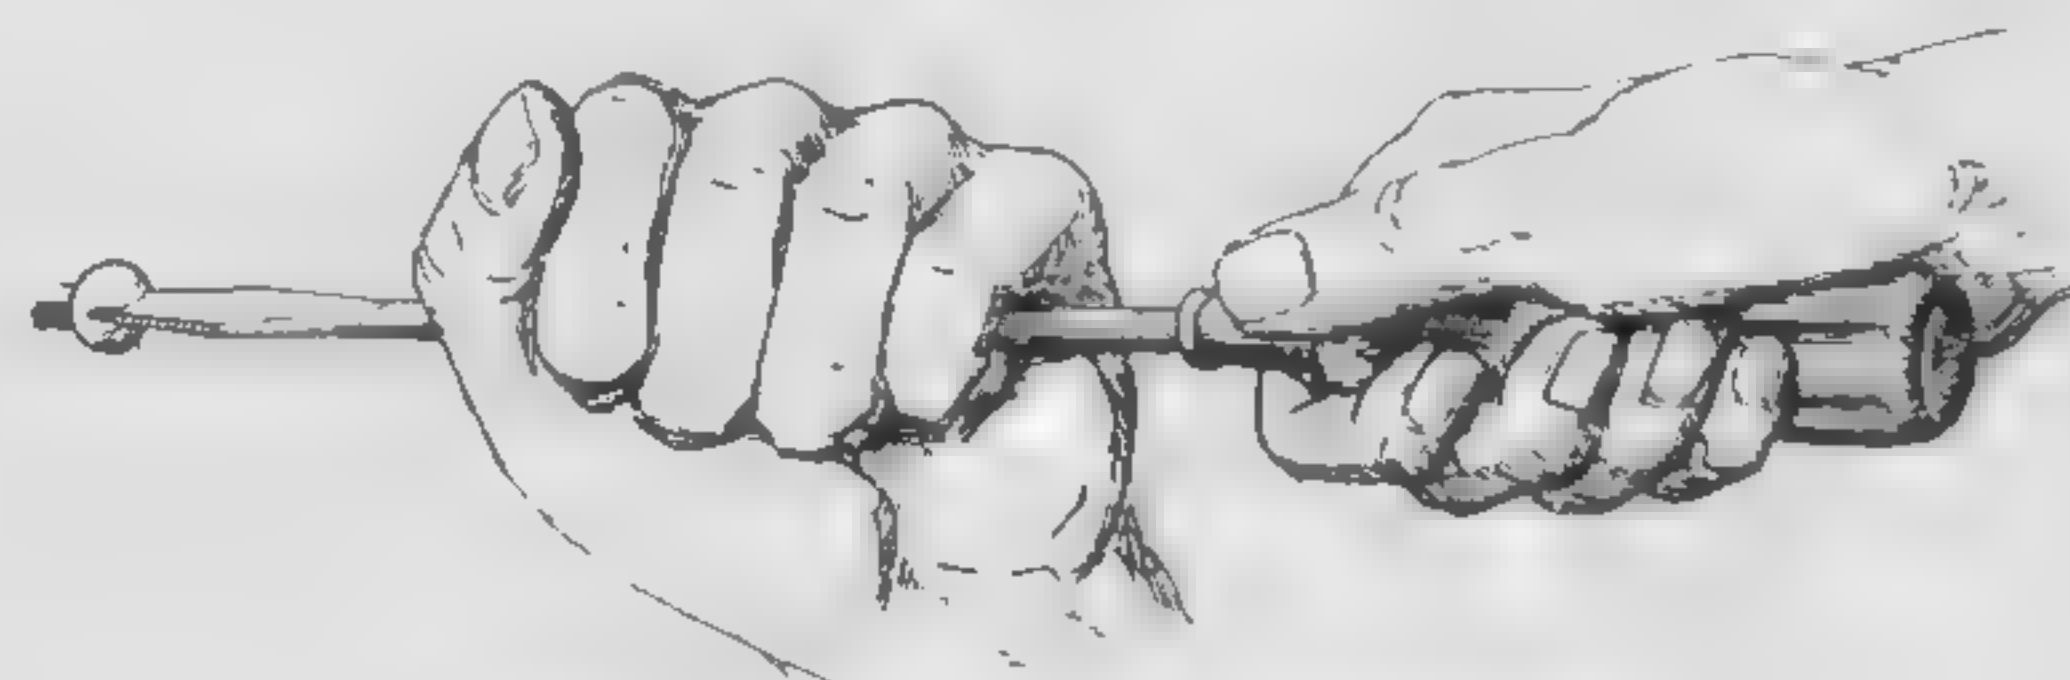

Fig. 6. Holding a Screw Driver
2. With the right hand, grasp the handle. With the left hand, guide the tip into the screw slot, as shown in Fig. 6.